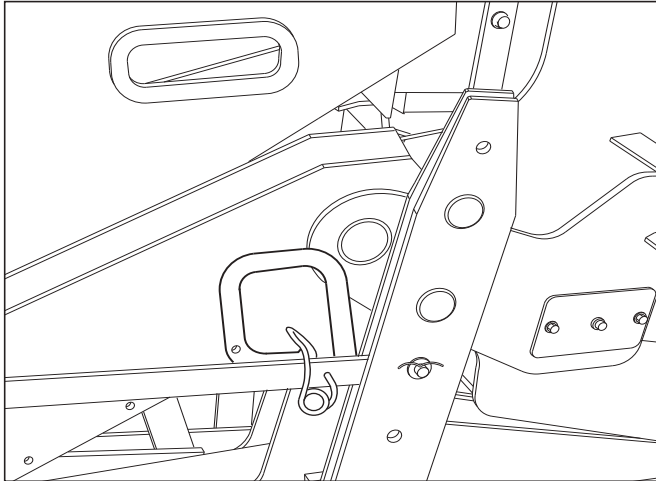

Figure 15 Insert square lock pins
5. When the attachment is set in place on the Forage Harvester, put the square lock pins and the safety pins back in place (figures 15 and 16). It will be necessary to install two floating springs and to move the bracket in the middle lifting hole.